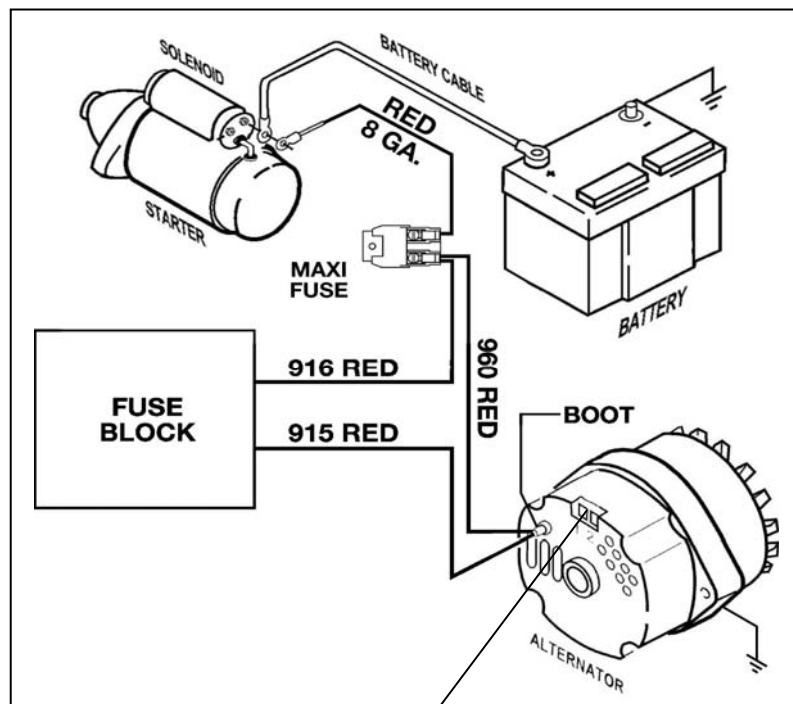

Figure 7-2B High Output Wire
- 7.3.1** Connect ALTERNATOR SECTION wire #915 (red) to the Alternator Output lug (Bat). Insulate and stow ALTERNATOR SECTION wire #914 (wht). Do not install jumper wire. No wires are connected to Alternator terminals 1 & 2. If alternator output is greater than 65 amps refer to Figure 7-2B and the caution below.
CAUTION: IF USING AN ALTERNATOR WITH AN OUTPUT LARGER THAN 65 AMPS, YOU WILL ALSO NEED TO USE THE RED 10 GAUGE WIRE #960 AND THE RED 8 GAUGE WIRE INCLUDED IN THE BOX. THE WIRE END WITH THE RING TERMINAL AND RUBBER BOOT WILL CONNECT TO THE ALTERNATOR OUTPUT LUG WITH #915. ROUTE THE OTHER END TO THE MAXI FUSE TERMINAL WITH WIRE #916. CUT THE WIRE AND CRIMP ON A RING TERMINAL. NOW INSTALL A RING TERMINAL ON THE REMAINING RED 8 GAUGE WIRE AND ATTACH IT TO THE STARTER SIDE TERMINAL OF THE MAXI FUSE. CUT THE 8 GAUGE RED WIRE TO LENGTH, CRIMP ON A RING TERMINAL AND ATTACH IT TO THE MAIN SOLENOID LUG WITH THE POSITIVE BATTERY CABLE. SEE FIGURE 7-2B.